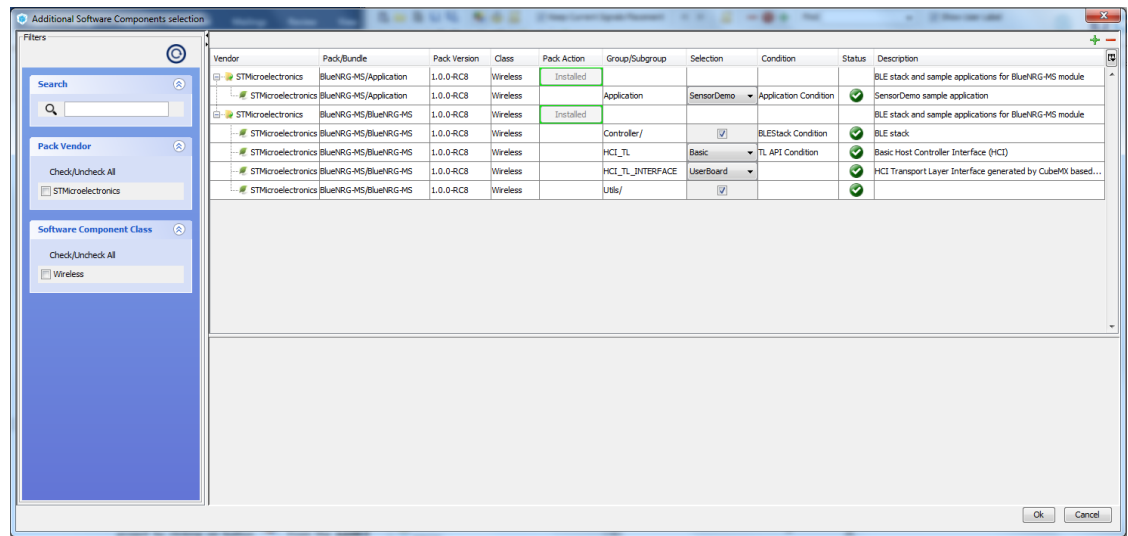

Figure 4 STM32CubeMX Additional Software Component Selection window
- Figure 4 STM32CubeMX **Additional Software Component Selection** window